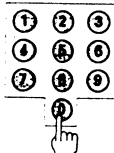

Fig. 1
- Press and hold any of the respective digit buttons which correspond to the stored TV station. (see Fig. 1)